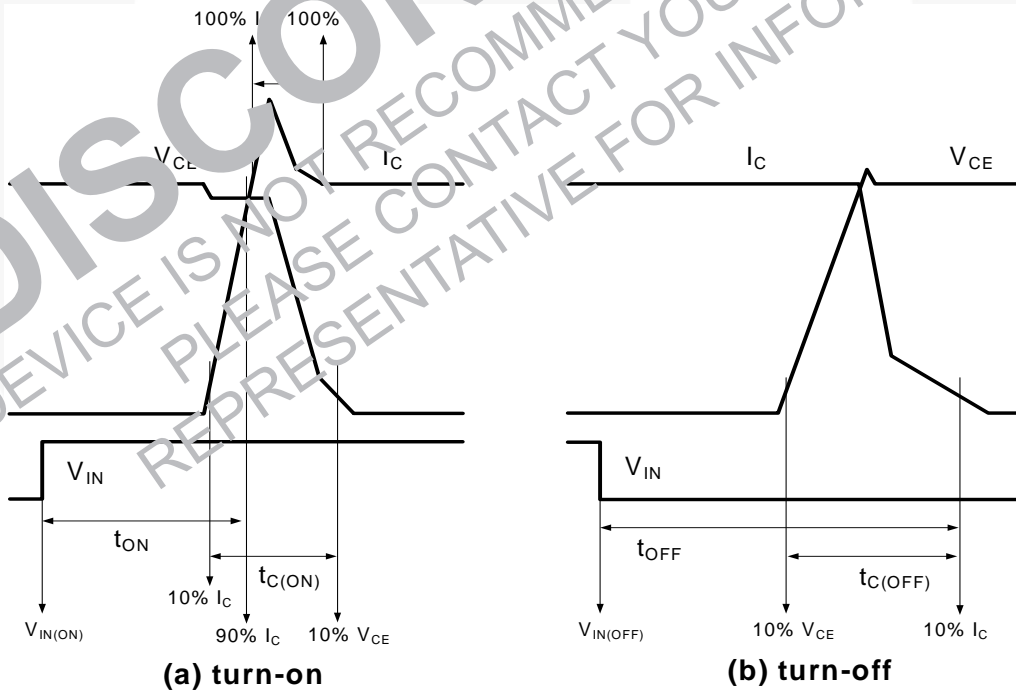

Figure 4. Switching Time Definition
6. t_{ON} and t_{OFF} include the propagation delay time of the internal drive IC. $t_{C(ON)}$ and $t_{C(OFF)}$ are switching time of IGBT itself under the given gate driving condition internally. For the detailed information, please see Figure 4.